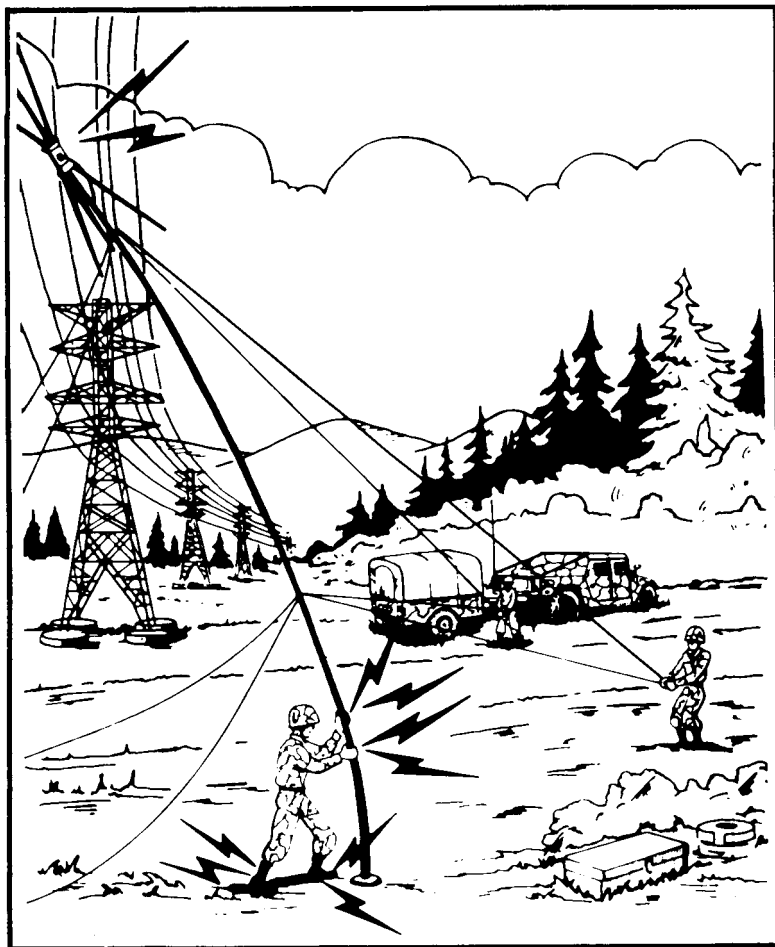

Figure 3-17. Antenna site with inadequate distance between power lines and antenna mast.
- An 84- by 84-foot clear area is required for installation of the AS-2259/GR antenna. Figure 3-17 shows an antenna site with inadequate distance between power lines and antenna mast.